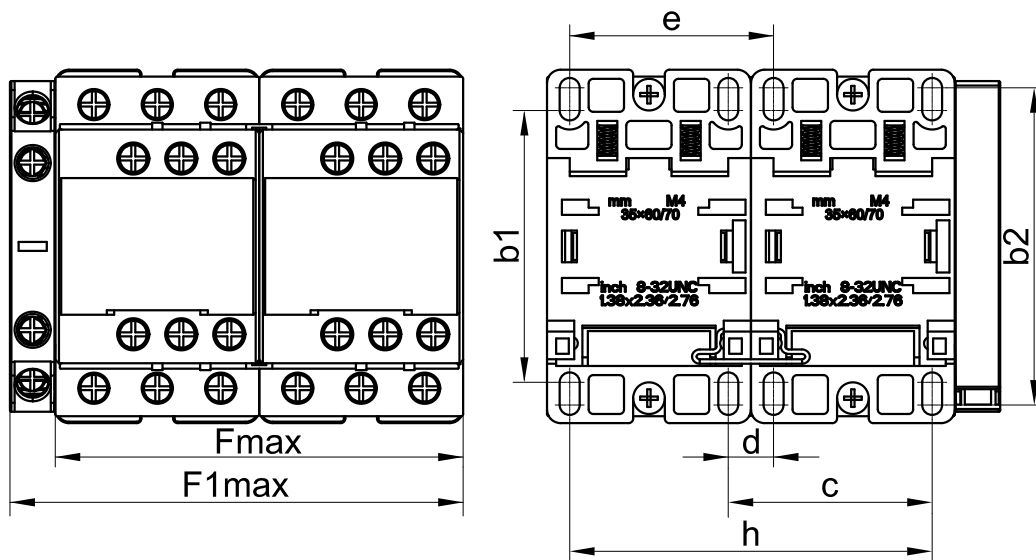
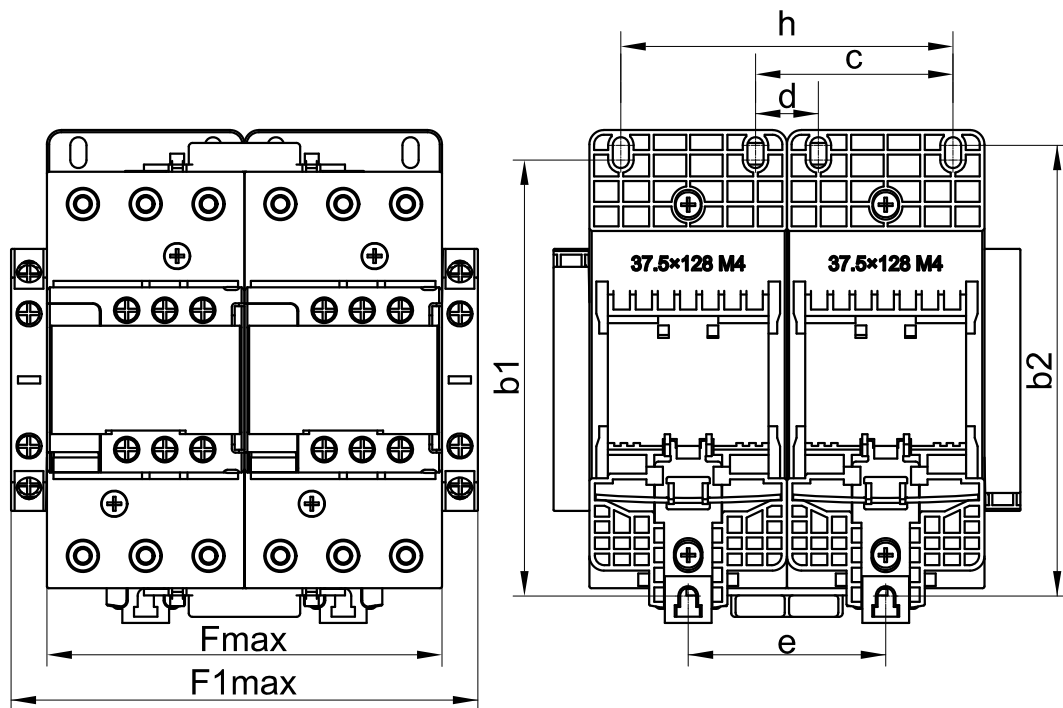
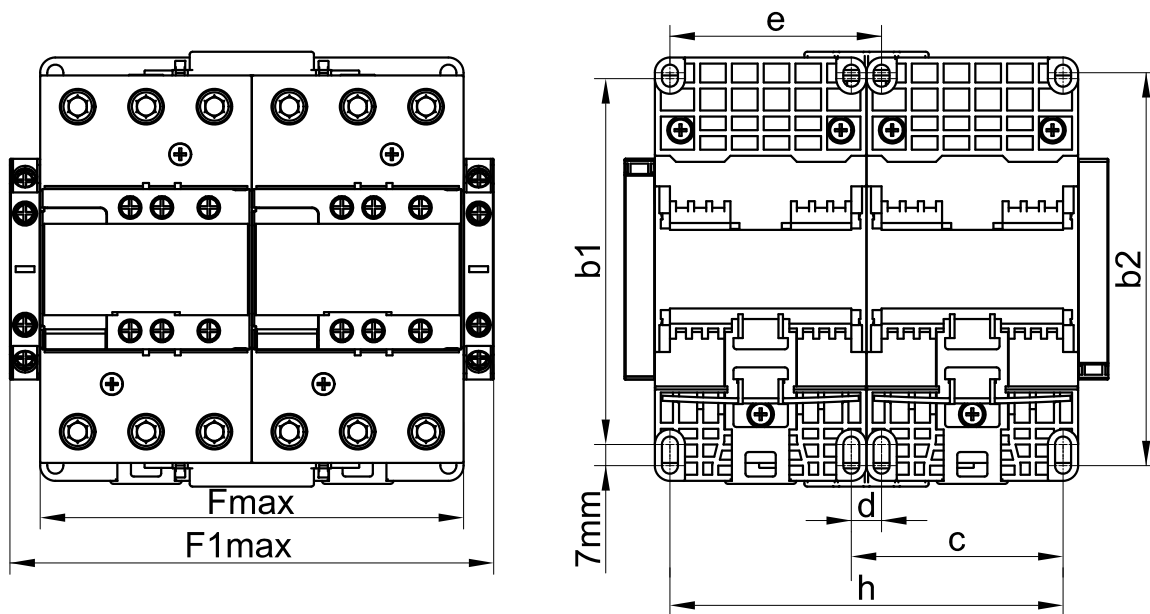

Fig. 10 HDCX-09~38 reversible contactor overall installation dimension
Fig. 11 HDCX-40~65 reversible contactor overall installation dimension
Fig. 12 HDCX-80~95 reversible contactor overall installation dimension
- The reversible contactor overall installation dimensions are shown in Figure 10, Figure 11, Figure 12 and Table 4.